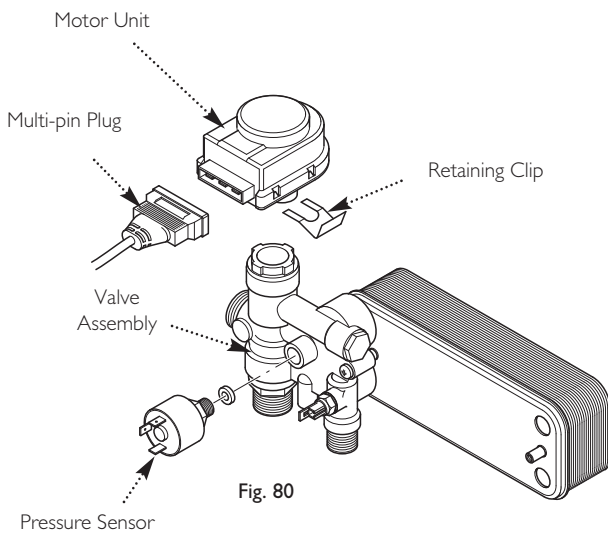

Fig. 80
13.21 Diverter Valve - Motor Unit & Assembly (Fig. 80)